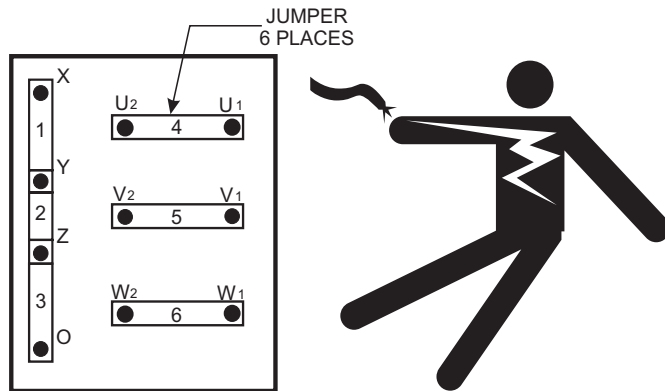

Figure 15. Voltage Change-Over Board
Voltages are selected by applying six jumper plates to the **voltage change-over board** (Figure 15), which is located inside the control box behind the generator control panel. This board has been provided for ease of voltage selection.
Various output voltages can be obtained using the UVWO output terminal lugs. The voltages at the terminals are dependent on the placement of the jumper plates (6) on the **voltage change-over board** (Figure 15) and the adjustment of the **voltage regulator** (Figure 19).